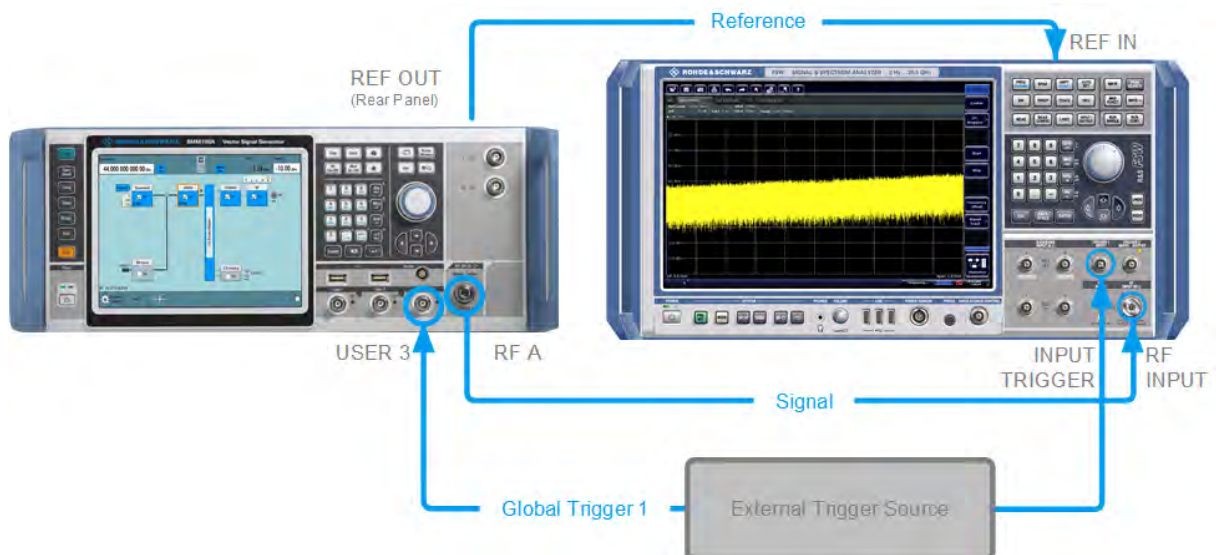

Figure 5-6: Simplified representation of a test setup**
1. Use a suitable cable to connect the external trigger source to the User 2 connector of the R&S SMM100A. See Figure 5-6.
The Figure 5-6 depicts the location of the connectors and explains the connection as principle. In practice, you would rather "substitute" the analyzer by a DUT, like a base station (BS). Other than in the example, the DUT can be the source for the reference signal. Instead of using an external trigger source, the DUT can also send, for example, a frame trigger signal to the R&S SMM100A. The R&S SMM100A acts still as the signal source.